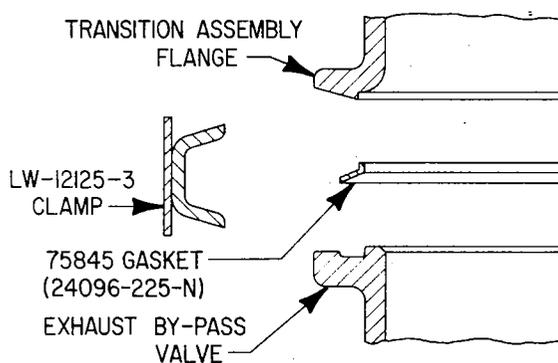

Figure 2. Diagram of Section Thru Transition and Exhaust Bypass Valve Showing Details of Clamp and Gasket Assembly
4. Place the gasket P/N 75845 in its proper position between the two mating flanges. Be sure it is seated firmly. Also be sure it is not upsidedown; that is, the straight, vertical side must face upward. See figure 2.